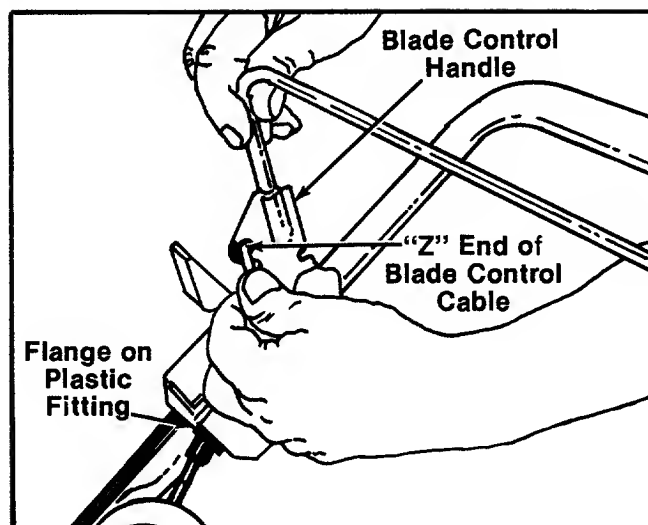

FIGURE 6.
7. Hook the "Z" end of the blade control cable into blade control handle. See figure 6. If additional slack is needed in order to hook the cable into the handle proceed as follows: